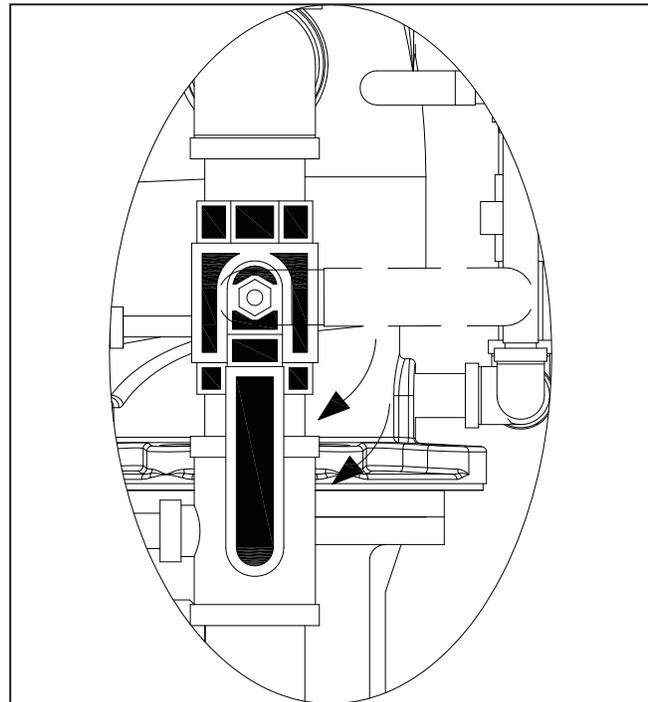

Figure 46
3. Open the main drain (Figure 46). If necessary, open the system test valve to vent and completely drain the system.